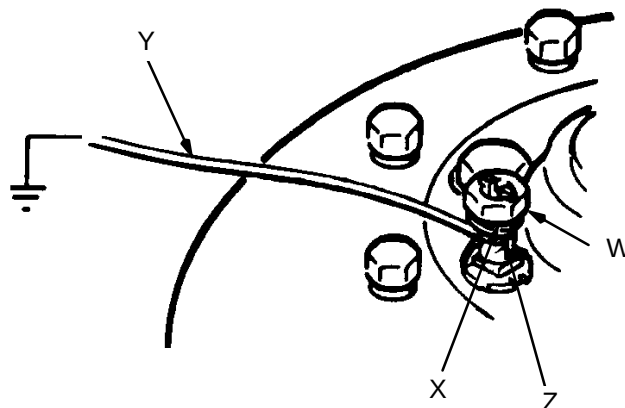

Fig 1 GROUNDING LUG
1. *Pump*: use a ground wire and clamp as shown in Fig 1.